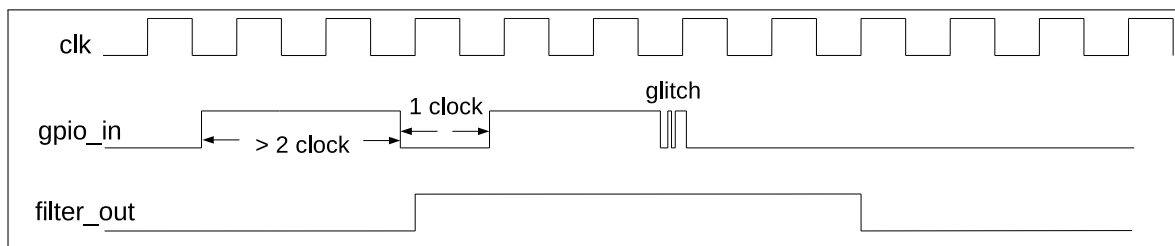

Figure 5.2-2. Filter Timing Diagram of GPIO Input Signals
2. Enable the filter for pad input signals by setting the register `IO_MUX_FILTER_EN`. Only the signals with a valid width of more than two clock cycles can be sampled, see Figure 5.2-2.